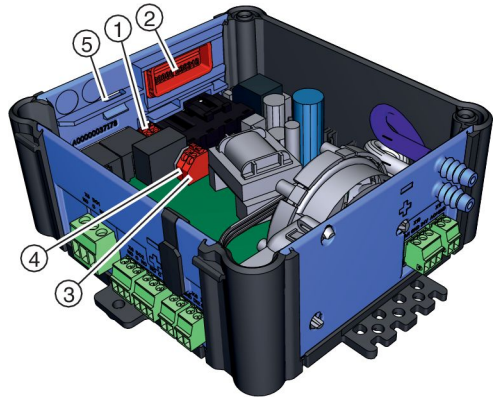

Fig. 11: Wiring the lighting
- ▶ Feed the cable through the cover plate (Fig. 11/2) into the casing.
- L (Fig. 11/4)
- N (Fig. 11/3)
- Connect PE to double terminal (Fig. 11/1)
- ▶ Use a cable tie to attach the wire to the bracket (Fig. 11/5) to provide strain relief.